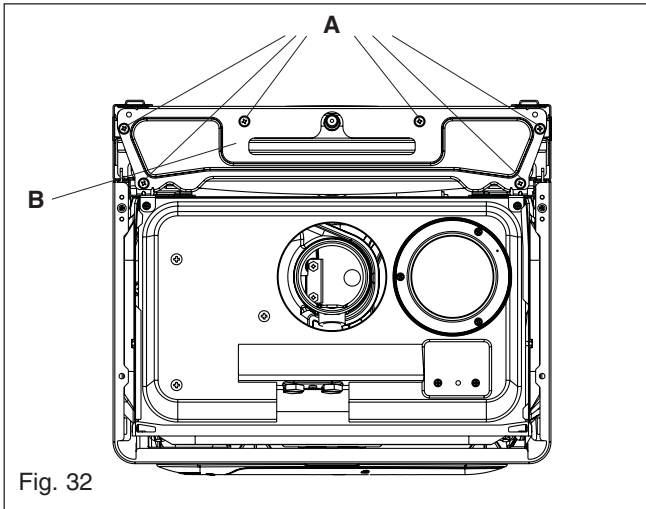

Fig. 32
Disconnect the flexible expansion pipe from the vessel. Locate and remove the four screws (A) that secure the vessel top holding plate (B), remove the plate (fig. 32). The expansion vessel can now be removed. Replace in the reverse order. Ensure all seals are in good condition, taking care to ensure they are replaced correctly.
Locate and remove the 4-screws that secure the vessel (see fig. 32). The expansion vessel can now be removed. Replace in the reverse order. Take extreme care when refitting the wiring to the air chamber. Ensure all seals are in good condition, taking care to ensure they are replaced correctly.